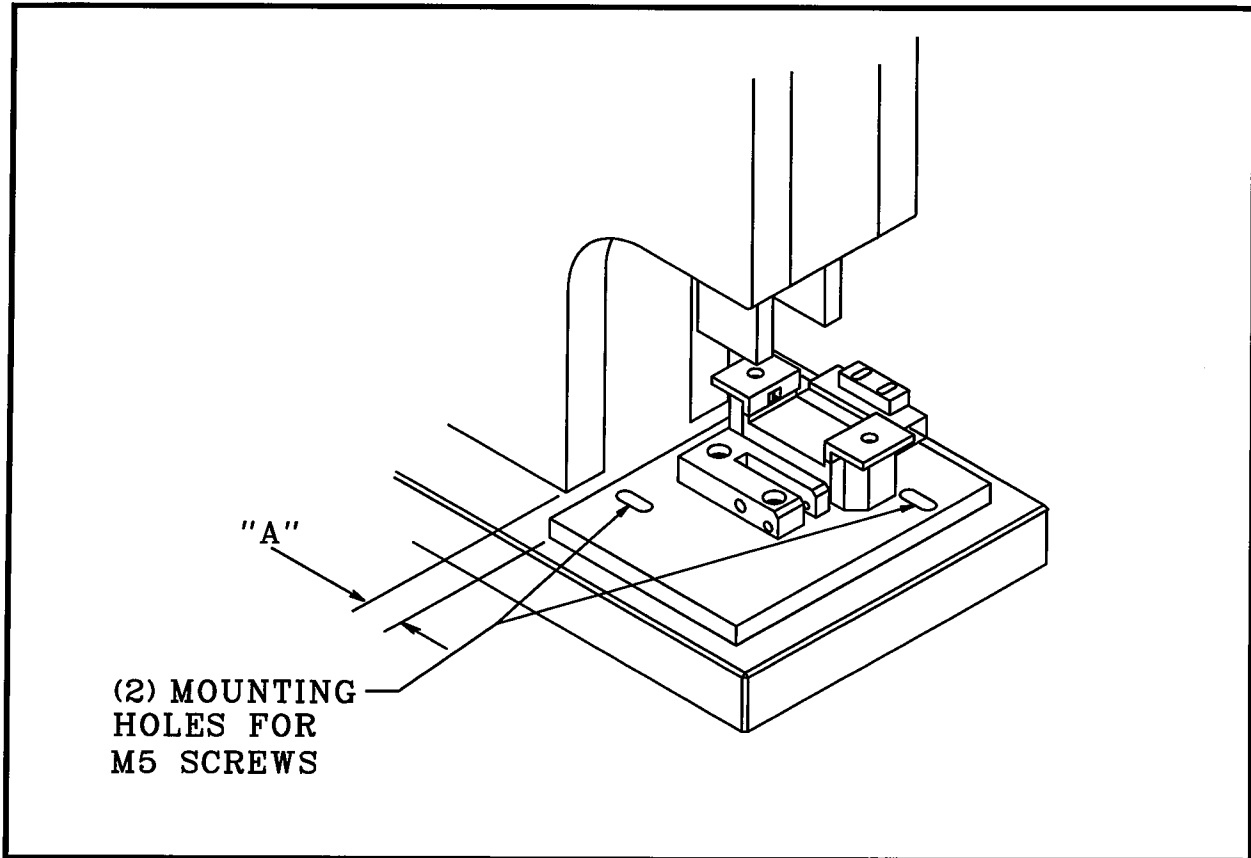

**Fig. 1-1
NOTE: The dies are keyed and can only be installed one way. (See Fig. 1-1)
3. Slide the tooling holder (62200-4418) upward, over the bottom of the press ram until it comes to a stop (See Fig. 1-1). Note: slightly lowering the press ram may assist in installing the tooling holder.
7. Install the (2) lower dies in the lower tooling holder and tighten with set screw. Note: The dies are keyed and can only be installed one way.